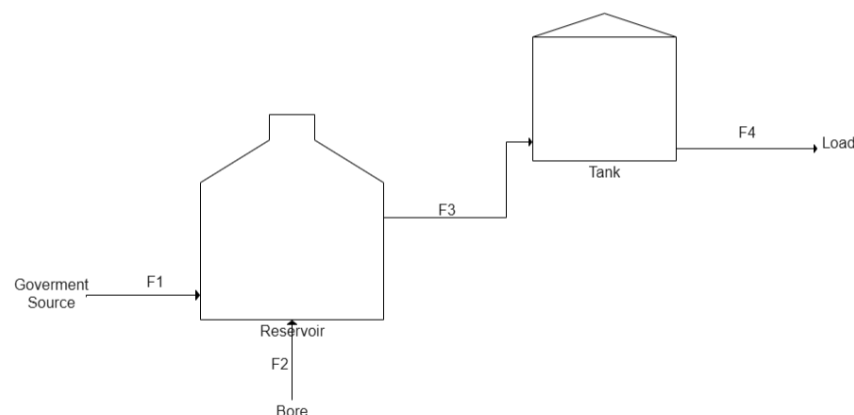

Figure 1.2 Process diagram
- **Process:** A process consist of assembling of equipment used in a process. In our case, we have used water reservoir with two inlets from which water from government source and bore is coming. We have water tank with one inlet through which water from reservoir is pumped. Figure 1.2 shows basic process diagram.